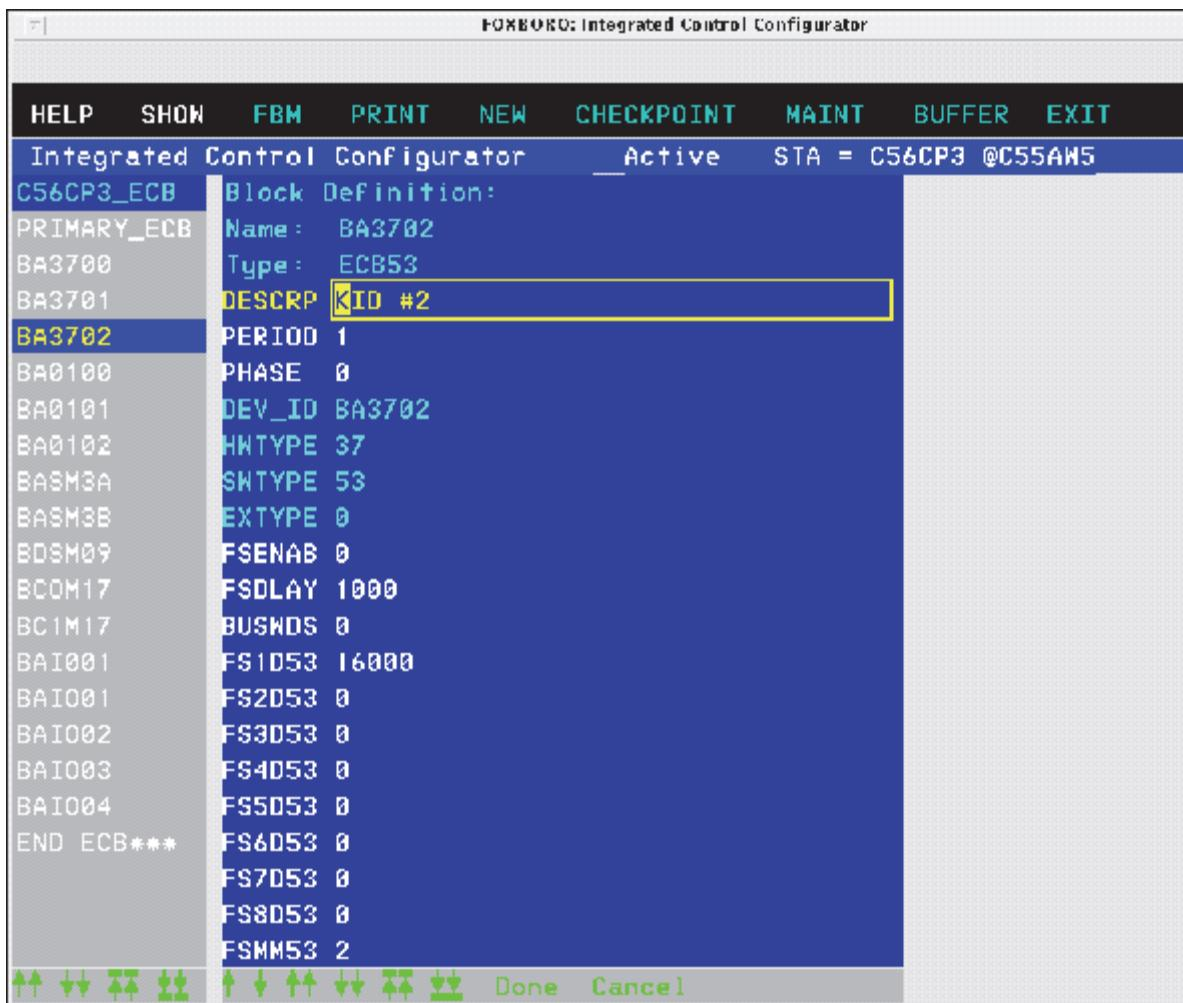

Figure D-18. Example Configuration, Second FBM37 ECB (BA3702) for BASO37 (SMDH)
- ◆ The last character of the second FBM37's ECB DEV_ID must be **2**, as shown in Figure D-18.